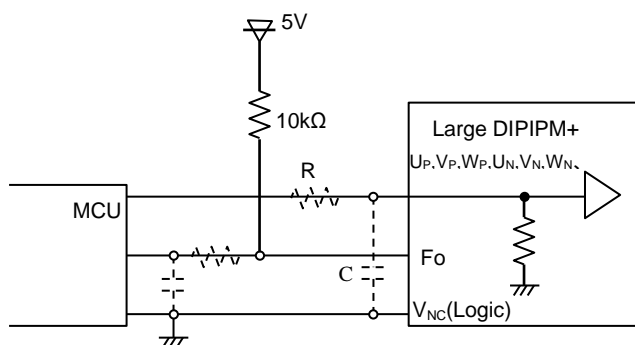

Fig.3-1-5 Control input connection
- (1) The wiring of each input should be patterned as short as possible. If the pattern is long and the noise is imposed on the pattern (e.g. Fig3-1-5), it may be effective to insert RC filter.
- (2) There are limits for the minimum input pulse width in the DIIPM. The DIIPM might make no response or delayed response, if the input pulse width (both on and off) is shorter than the specified value. (Table 3-1-2)